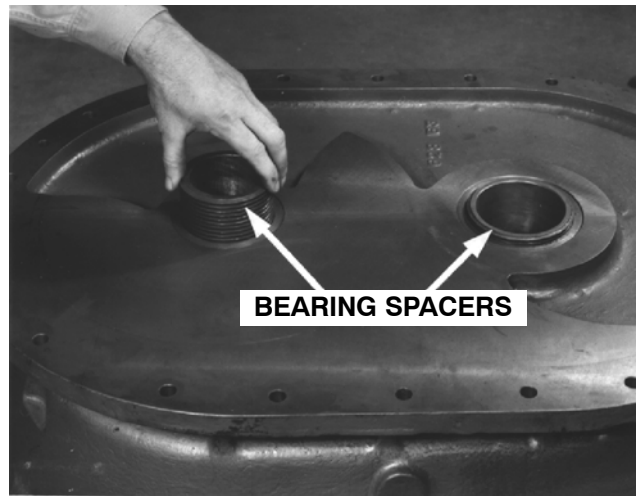

FIGURE 2
2. To ease assembly in later steps, fit the bearing spacers (16, 17) to the seals (18, 19) (FIGURE 2). Be sure there are no burrs on the spacer O.D. and seal I.D. The spacer should be SLIP FIT in the seal. A sloppy fit will cause excess air leakage and decrease blower efficiency. Do not drive the spacer through the seal as damage to the babbitt will result. It may be necessary to polish high spots from the seal I.D. to allow slip fit of the spacer. **USE CROCUS CLOTH, not emery cloth.**